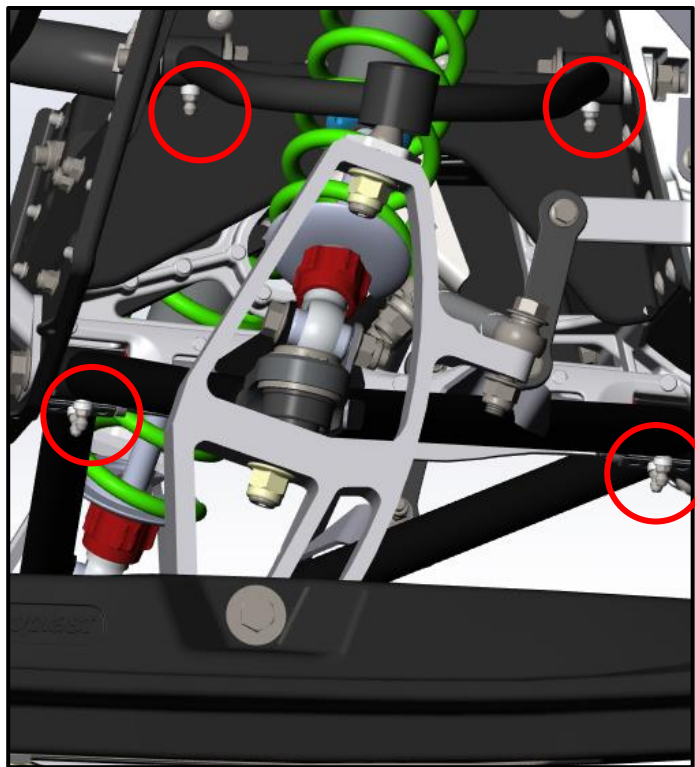

Fig. 45 - Front suspension hydraulic press (left)сторона)
1. Install the syringe on the oil injector (Fig. 45), and inject consistency grease into the hinge to lubricate 8 points. Apply grease until it begins to drain from the fitting in the area of the fastening hole.